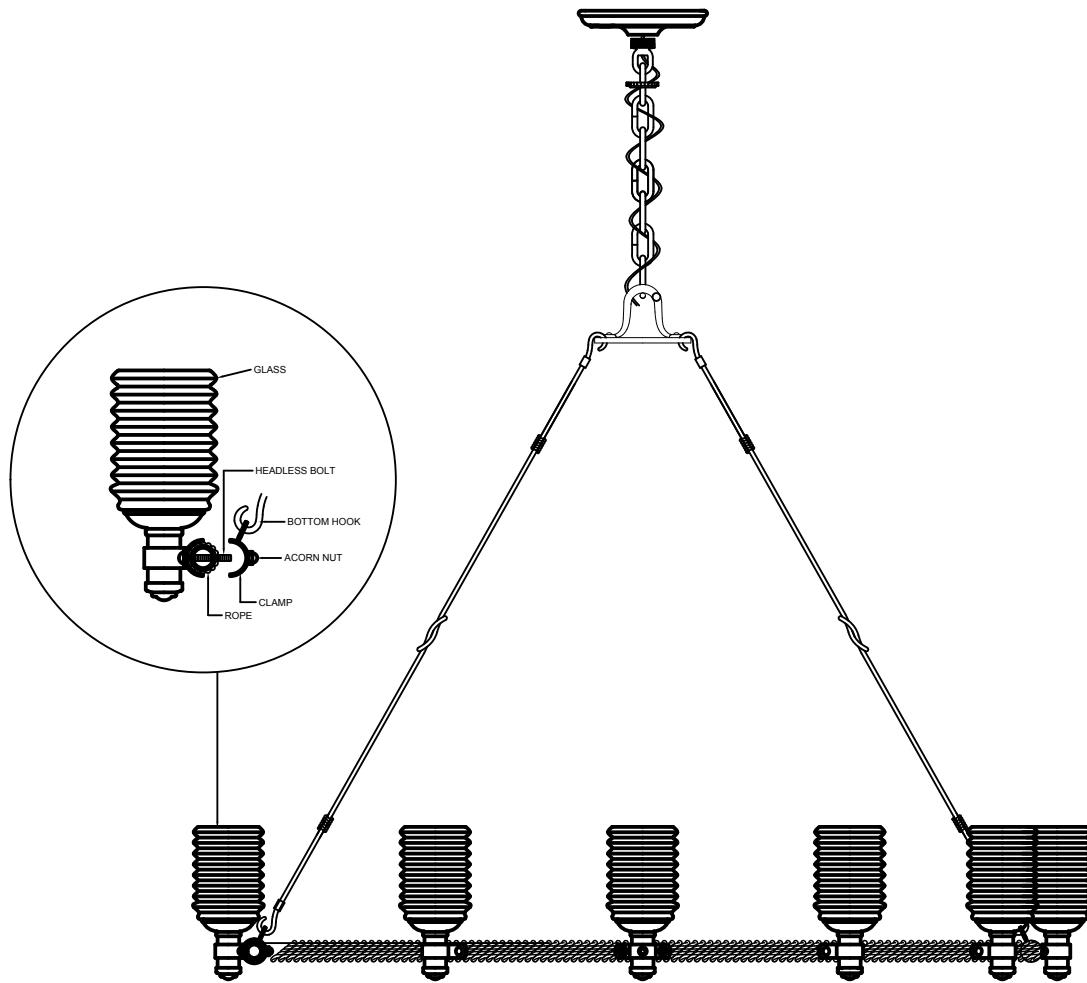

FIGURE 3
9. Open first the clamp by deattaching the acorn nut and the bolt. Insert the top hook of the stick bar to the center canopy then the other side into the clamp. Follow the steps in the proceeding parts. See figure 3.